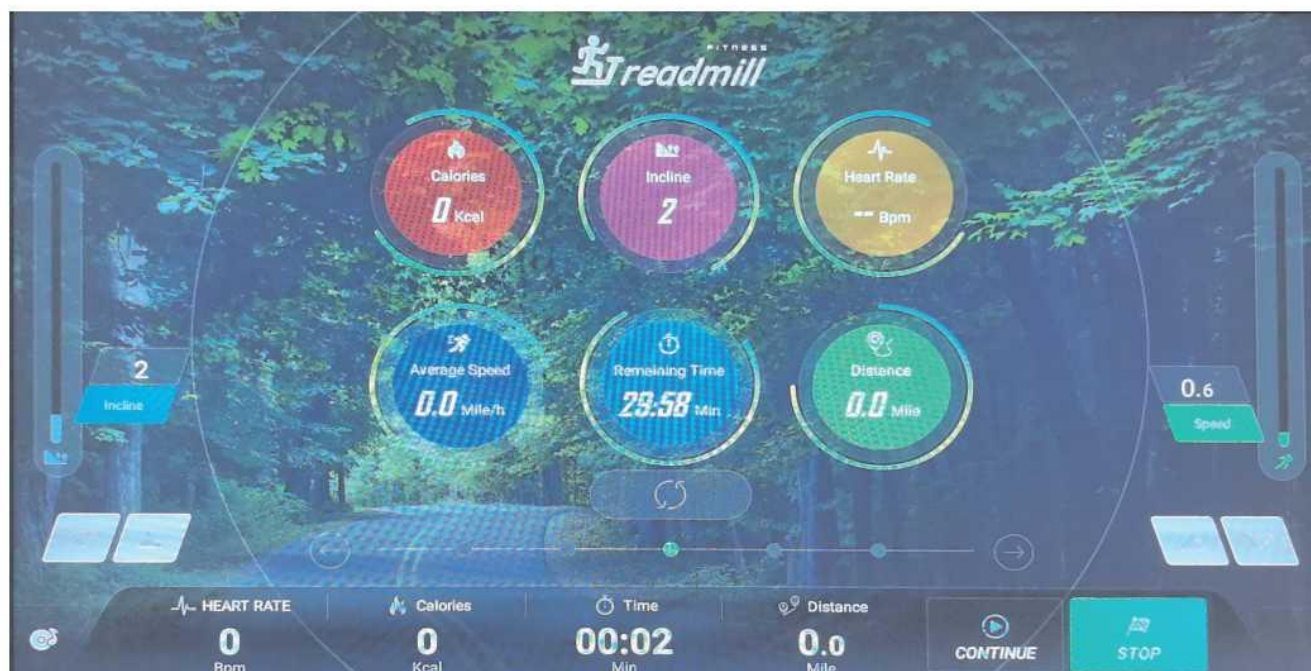

FIG. 7 Sports Page (Parameter Display Mode)
- 3) Parameter display mode display data such as exercise time, distance, average speed, calories, average slope and average heart rate, as shown in FIG. 7;